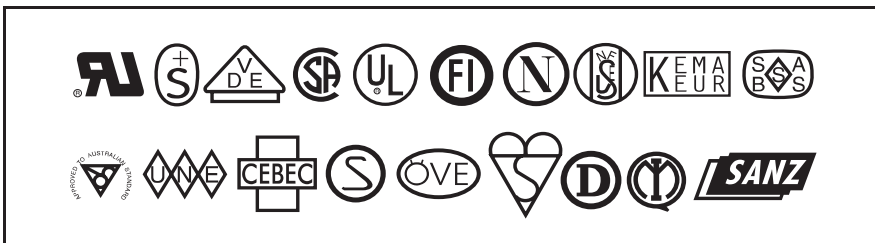

Figure 20. International Safety Organizations
- The AC power plug and IEC 320 connector must bear the certification mark of at least one of the known international safety organizations shown in Figure 20.